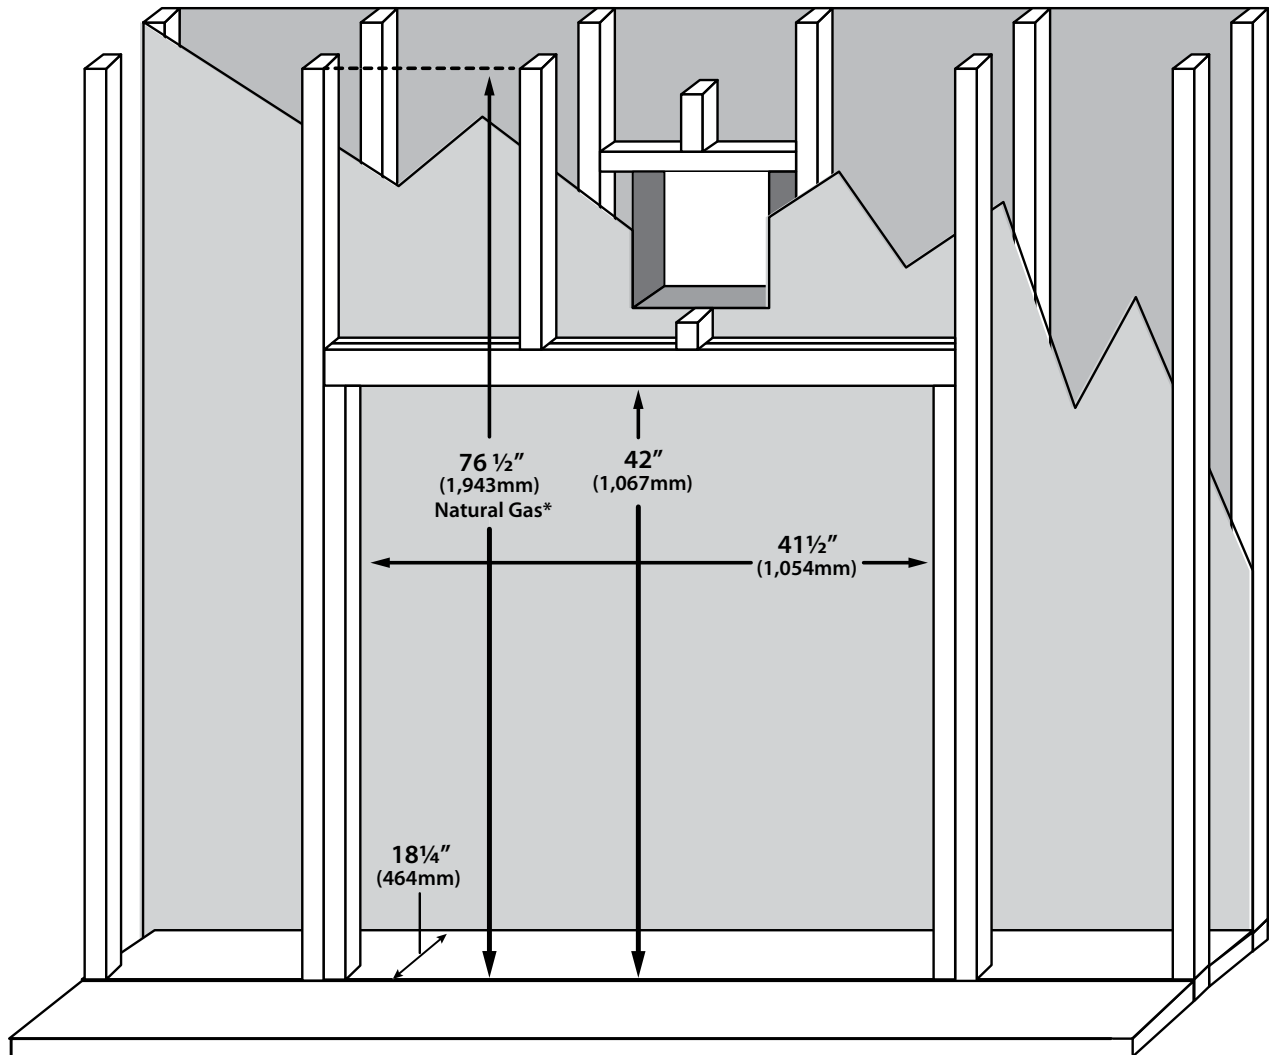

Figure 30: G39 Minimum Framing
4. Convert the existing pilot orifice using a 7/16 inch wrench. Loosen the pilot head and move the orifice slider to the opposite side. A red dot on the exposed side will indicate the pilot is set to LP. Retighten pilot, if head does not reach proper orientation in the snug position then contact your Enviro dealer (see Figure 30).